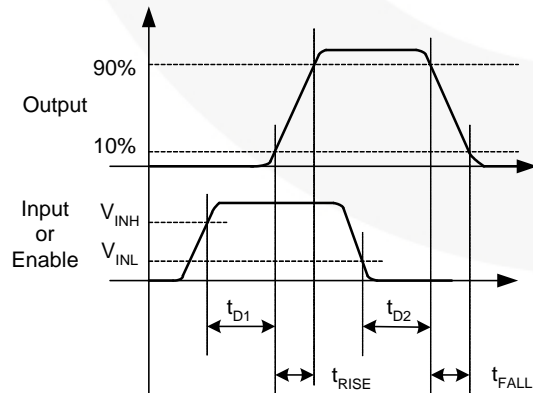
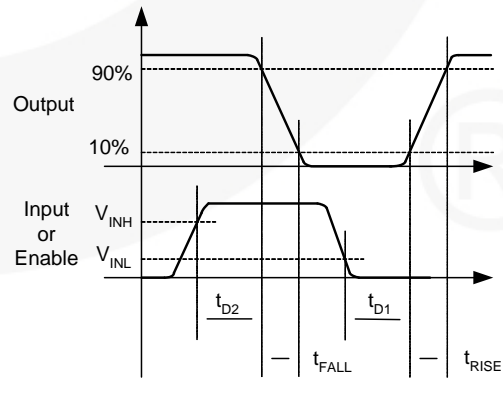

Figure 4. Non-Inverting
Figure 5. Inverting
11. See the *Timing Diagrams of Figure 4 and Figure 5*.